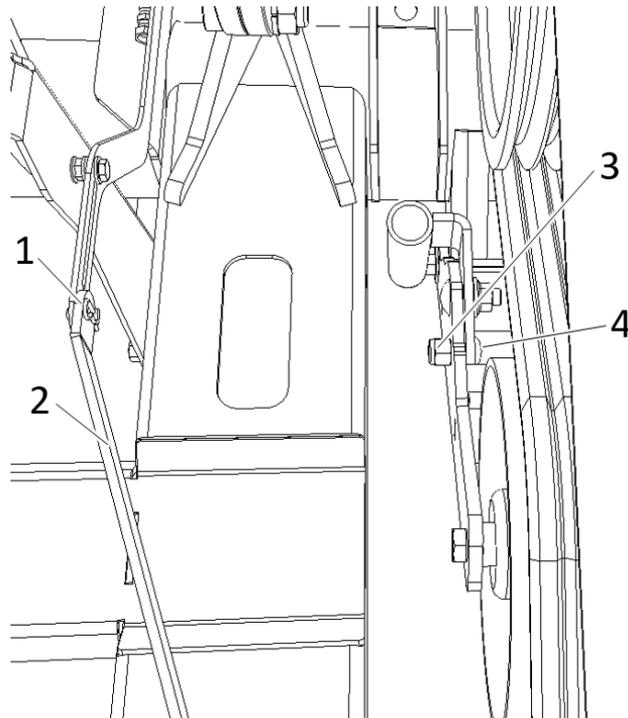

Figure 33 Cylinder locking arm and tensioner locking bolt
#### STEP 2 - FIGURE 33
Install the cylinder lock lever (item 2) and insert the locking pin (item 1). Install the tensioner locking bolt (items 3 and 4). (Reverse from Step 2 – Figure 33 Cylinder locking arm and tensioner locking bolt).